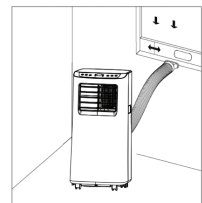

Figure 6.
5. Elongate the exhaust pipe and snap the flat end of the exhaust pipe joints into the hole of the window sealing plate assembly (as shown in Fig.5 and Fig.6).